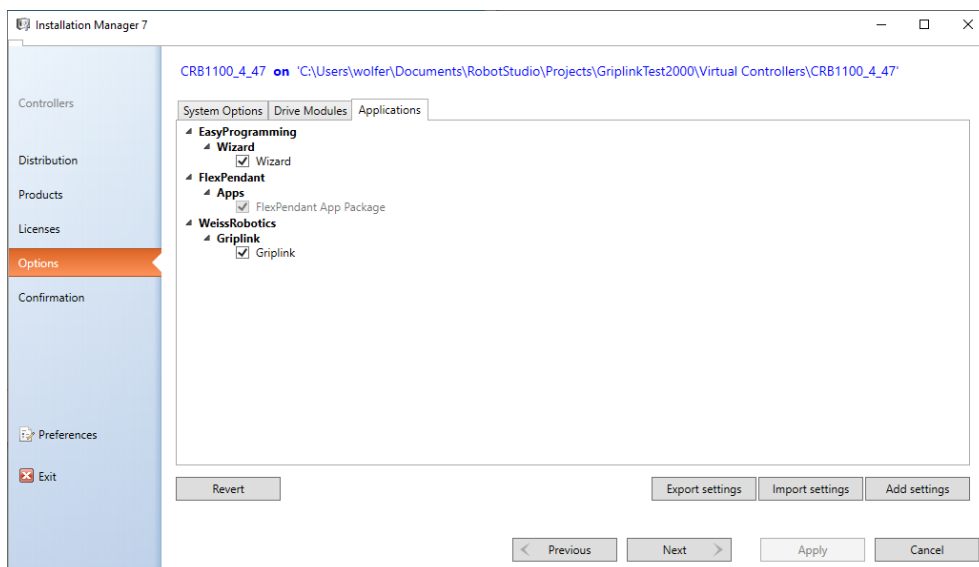

Figure 6
7. Select “Next” until you get to the “Options” panel. Select “Applications” from the tab list and make sure “Griplink” is selected. Click next and finish the dialogue. Close the Installation Manager (Figure 6).